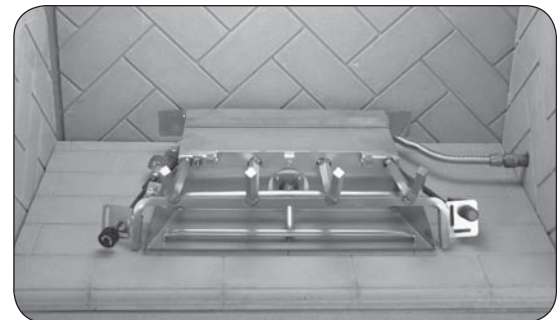

Fig. 14-2 Center burner in fireplace
3. Place the burner system in the fireplace. Center the burner from left to right in the fireplace. See Fig. 14-2.